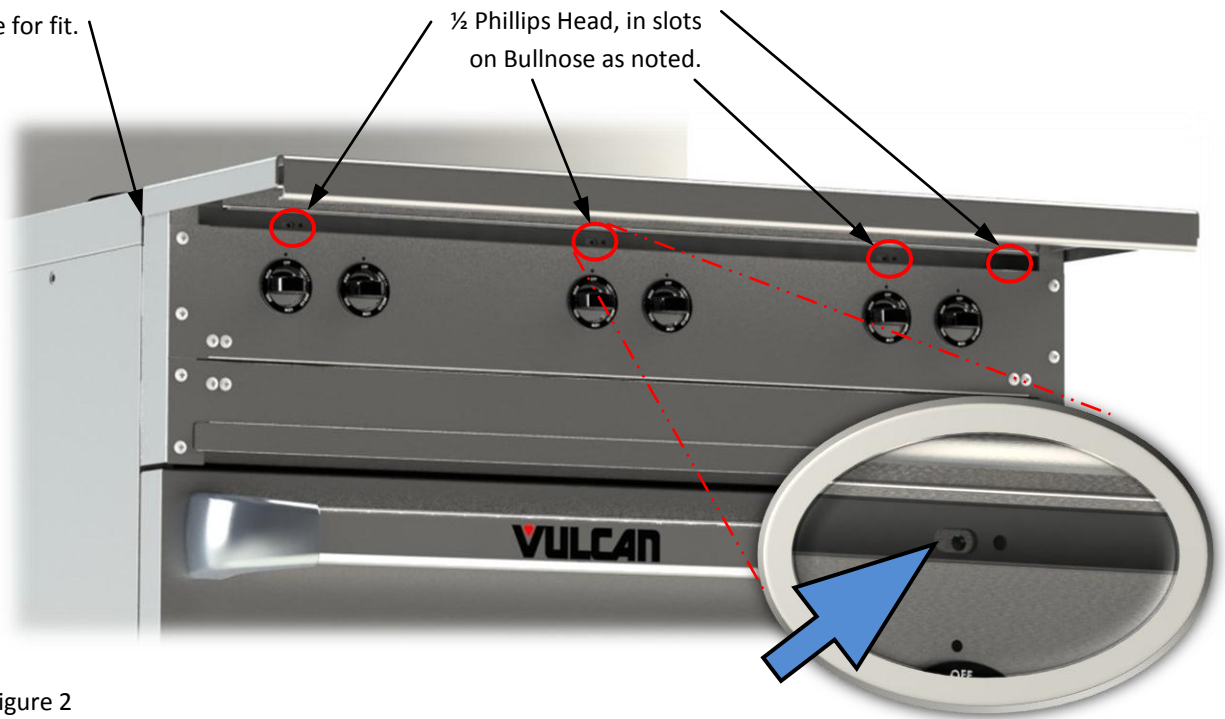

Figure 2
- 6.) Going across the width of the Range install the next screw, as shown in Figure 2, set the alignment and tighten screw completely.